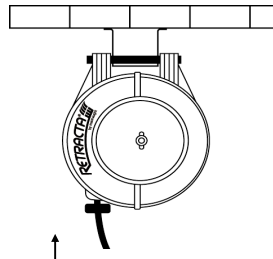

Fig.2 Overhead mounting (max height 4.5m)
- 2) To prevent the reel from pivoting in the overhead position (figure 2). Install locking bracket supplied.